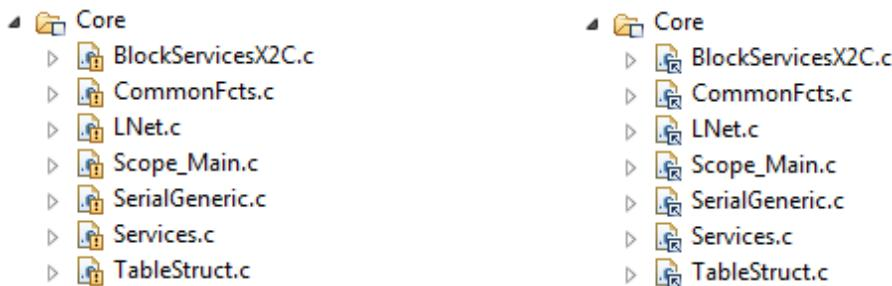

Figure 2: *Code Composer Studio* invalid (left) and valid (right) X2C root directory
3. In the *Code Composer Studio* file structure of the *Blinky* demo project there are two virtual folders *Blocks* and *Core*, which should be linked directly to the X2C directory. To ensure this go to **Project → Properties** drop down **Resource** and click **Linked Resources**. Double click on folder **X2C\_ROOT** and set the correct link to your X2C installation directory (<X2C\_ROOT>). After hitting **OK** two times there should not be any warning signs (like shown in Figure 2) at the icons for the linked files in the *Blocks* and *Core* folders.